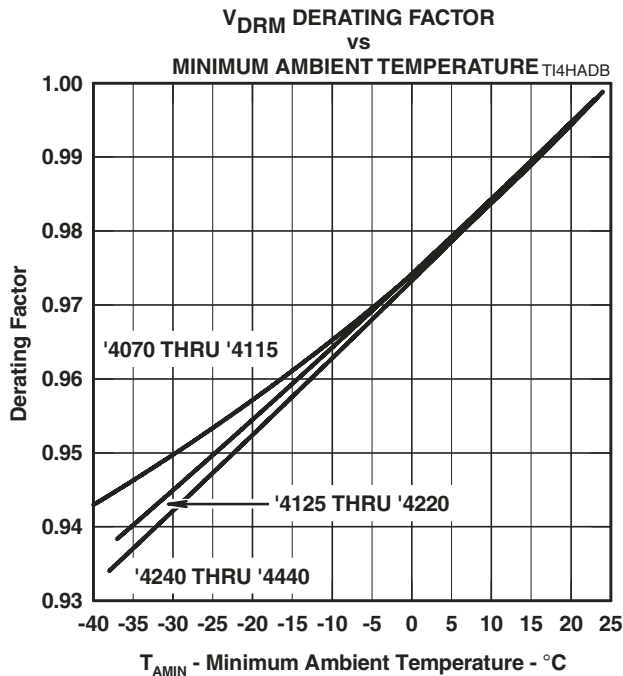

Figure 10.
- NOTES: 1. See Applications Information and Figure 10 for voltage values at lower temperatures.
Figure 10 allows the calculation of the protector V_{DRM} value at temperatures below 25 °C. The calculated value should not be less than the maximum normal system voltages. The TISP4265H3BJ, with a V_{DRM} of 200 V, can be used for the protection of ring generators producing 100 V r.m.s. of ring on a battery voltage of -58 V (Th2 and Th3 in Figure 17). The peak ring voltage will be $58 + 1.414 \cdot 100 = 199.4$ V. However, this is the open circuit voltage and the connection of the line, and its equipment will reduce the peak voltage. In the extreme case of an unconnected line, clipping the peak voltage to 190 V should not activate the ring trip. This level of clipping would occur at the temperature when the V_{DRM} has reduced to $190/200 = 0.95$ of its 25 °C value. Figure 10 shows that this condition will occur at an ambient temperature of -22 °C. In this example, the TISP4265H3BJ will allow normal equipment operation provided that the minimum expected ambient temperature does not fall below -22 °C.